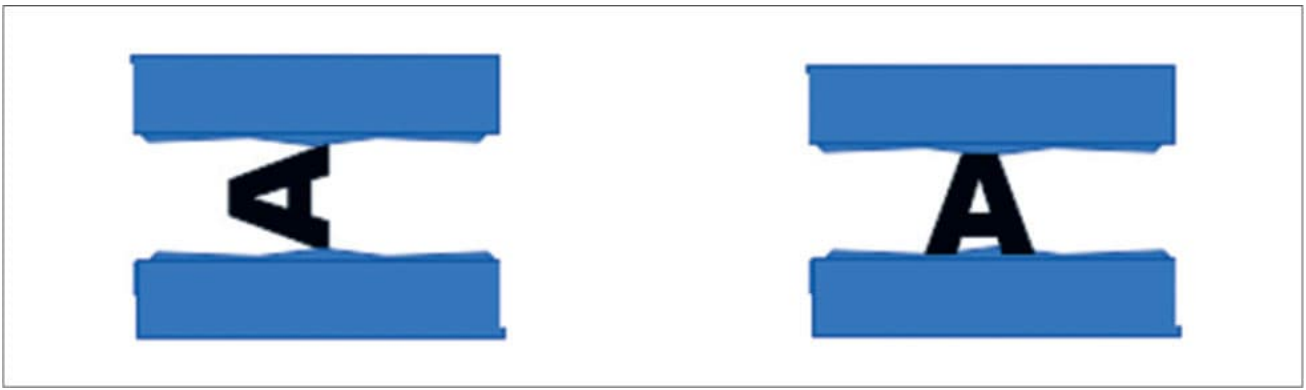

FIG. 2: *Position letters in the vise jaws, first along their length, then their width, to test the properties of each letter in different orientations.*
2. Place the first letter laterally in the vise along its width till the vise jaws grip it, but not so tight as to deform the letter. See fig. 2, which shows the letter A placed in the vise jaws along its length in the first part, and along its width in the second part.
4. Use a new print of the same letter, but this time, place it in the vise in a different orientation, along its length (fig. 2), till the vise jaws grip it, but not so tight as to deform the letter (fig. 3).